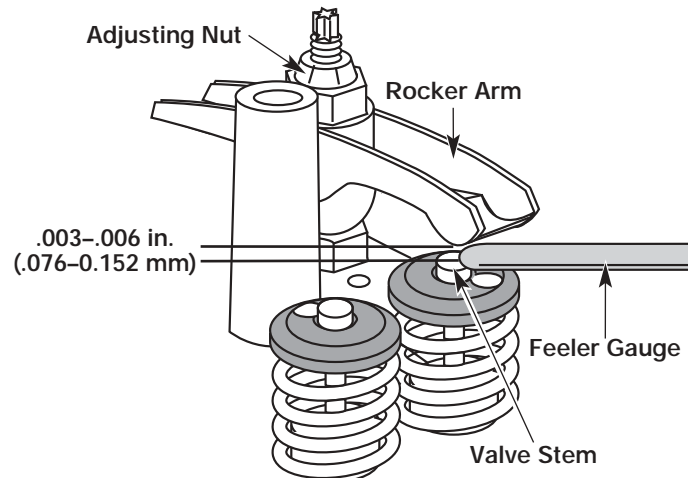

Fig. 32
The recommended clearance for both intake and exhaust is .003 – .006 in. (.076 – 0.152 mm). Use a standard automotive .005 in. (0.127 mm) feeler gauge. The feeler gauge should slide between the rocker arm and valve stem with a slight amount of resistance, without binding (Fig. 32).
- a. Turn the adjusting nut using a 5/16 inch (8 mm) wrench or nut driver (Fig. 32).